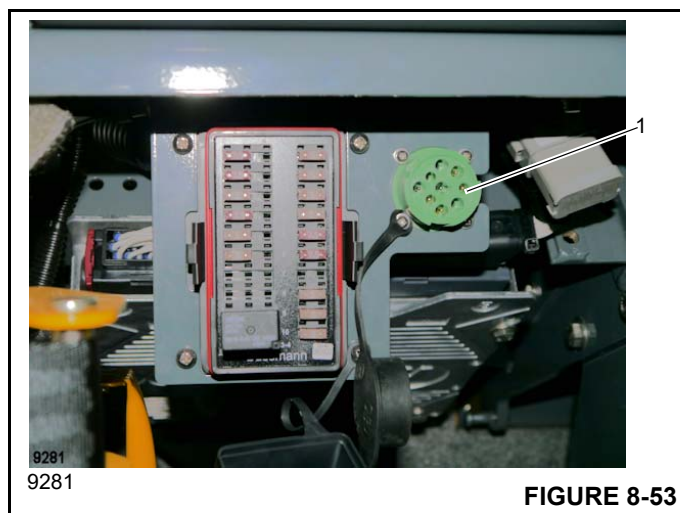
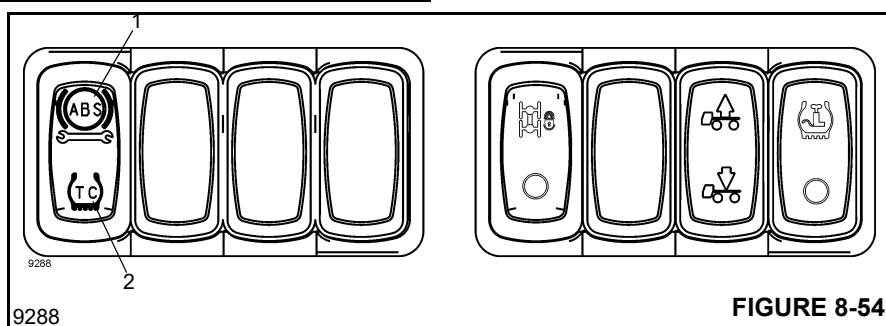

FIGURE 8-53
FIGURE 8-54
The 9-pin on board diagnostic connector (1) (Figure 8-53) is located under the dashboard to the left of the steering column. The ABS diagnostic switch (1) is located near the lower left of the control panel as shown in (Figure 8-54).